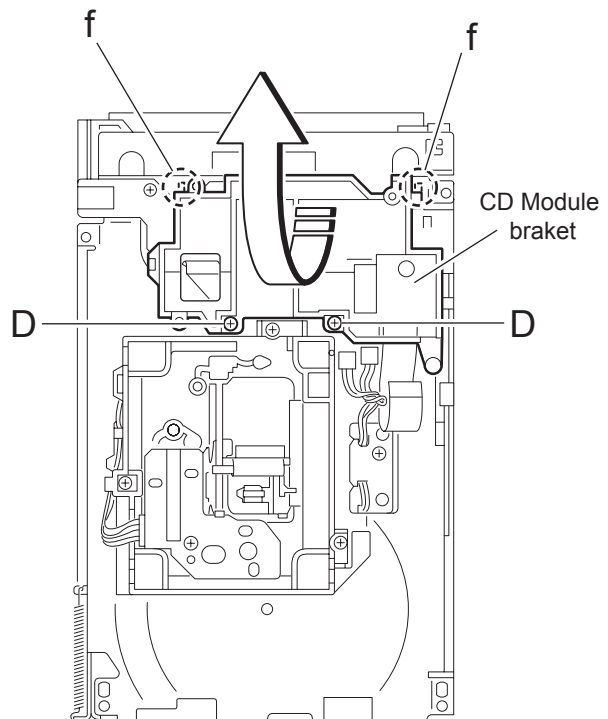

Fig.10
3.3.4 Removing the motor board (See Fig.10 , 11)